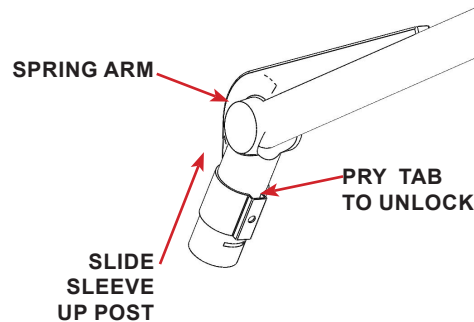

FIGURE 2.39 - Unlock Sleeve
STEP 2: Using a flat tip screwdriver insert and push the locking tab outwards to unlock the sleeve. Slide the sleeve up the shaft to expose the retaining tab. Refer to FIGURE 2.39